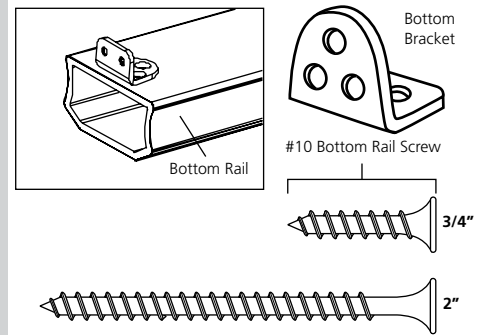

Figure 20
5. Center the bottom bracket on the underside of the bottom rail (Fig. 20). Inset the bottom bracket 1/16" from the end of the rail. Mark the three hole locations on the rail. Pre-drill 1/8" holes at the desired locations. Repeat for opposite end.
Rails up to 30 degrees may be mounted to the post face by using the In Line "L" Bracket (Fig 20). Rails should be cut at the appropriate angle to fit tight against post. Cutting rails greater than 30 degrees will result in a rail that does not fully fit on post. Angles greater than 30 degrees require the use of the Angle Mount Bracket.